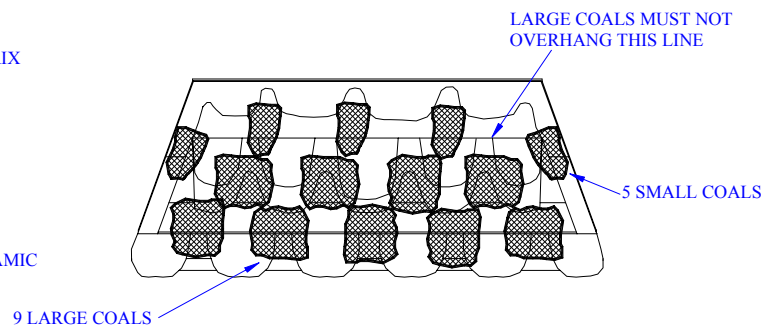

Fig. 12 Placing the loose coals
8. Remove the coals from the bag; note that there are various sizes supplied with the burner. Place them on the ceramic blocks in accordance with Fig. 12.